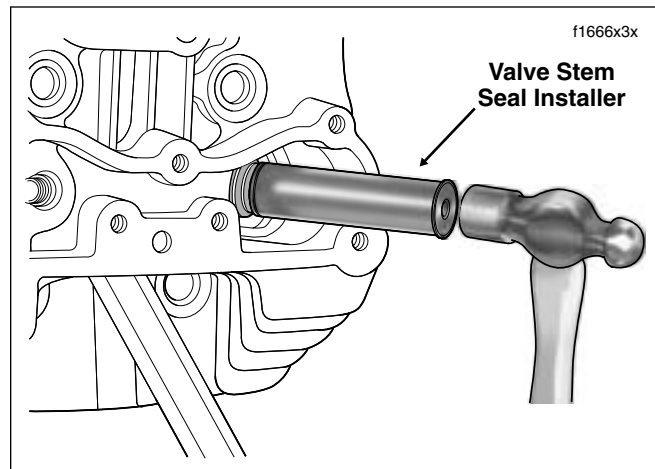

Figure 3-30. Tap Installer to Seat Valve Stem Seal
- b. See Figure 3-30. Using a small hammer, gently tap the end of the tool until it lightly bottoms on the installed spring seat. For best results, brace the cylinder head with chest area to prevent movement during seal installation.